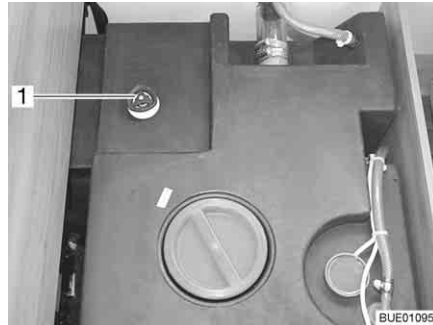

Fig. 179 Water tank with handle
- Turn the handle (Fig. 179,1) on the water tank in a clockwise direction as far as it will go.
- Turn the handle (Fig. 179,1) on the water tank in an anticlockwise direction as far as it will go. Excess water will drain away leaving 60 litres in the tank.